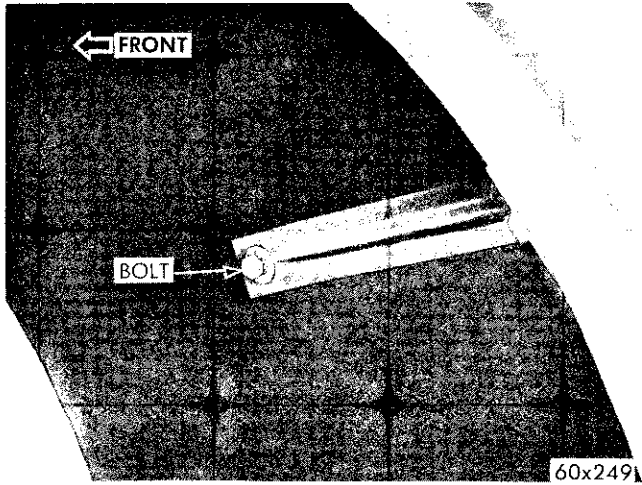

Fig. 7—Splash Shield to Cowl Mounting
(7) Remove the bolts attaching the splash shields to the cowl (Fig. 7).